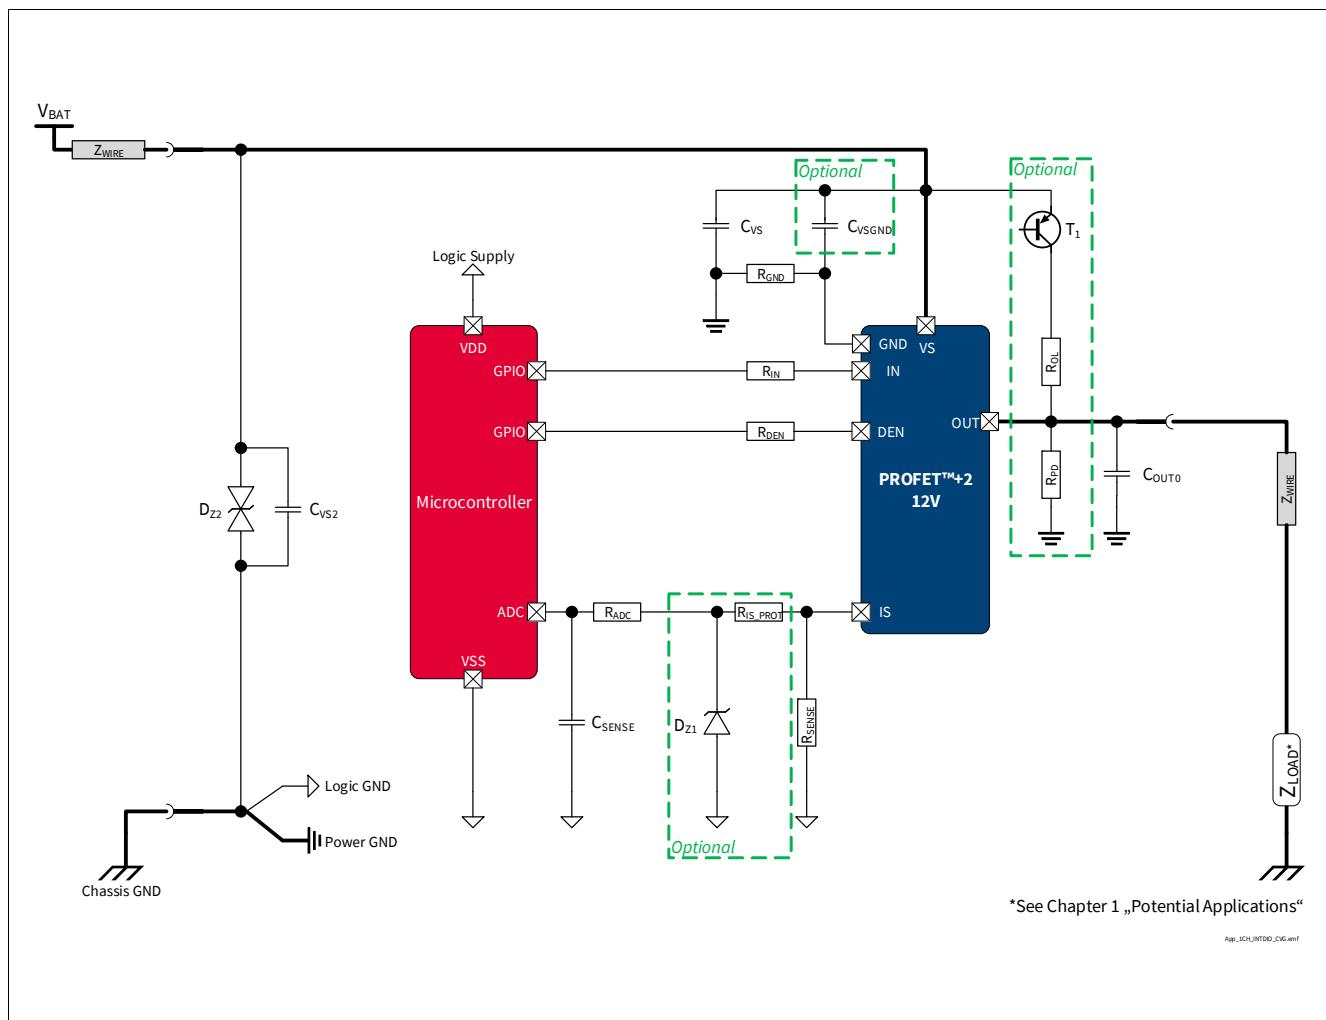

Figure 37 BTS7002-1EPP Application Diagram
1.04 , 2019-10-15	<p>P_6.5.20.1 updated (Typ.: 0.01 μA \rightarrow 0.1 μA)</p> <p>P_8.7.10.1, P_8.7.10.7, P_8.7.10.8 updated (added in Note or Test Condition: link to Figure 24)</p> <p>P_7.5.10.5 updated (added in Note or Test Condition: see Figure 18)</p> <p>P_7.5.10.12 updated (added in Note or Test Condition: see Figure 20; deleted unnecessary space in Symbol: $dVOUT / dt \rightarrow dVOUT / dt$)</p> <p>P_8.7.10.6 updated (added in Note or Test Condition: see Figure 25)</p> <p>P_9.7.10.1 updated (added in Note or Test Condition: see Figure 32)</p> <p>Figure 1, Figure 37 updated</p> <p>P_4.3.0.7 added</p> <p>Table 22 updated</p> <p>Chapter 5.1 updated (added: see Chapter 10 for the complete application setup overview)</p> <p>Chapter 9.2 updated ($2\text{ V} \rightarrow V_{DS(OLOFF)}$)</p> <p>General: updated (ReverSave™ \rightarrow ReverseON)</p>
1.01 , 2018-06-14	<p>Page numbering corrected</p> <p>Figure Application Diagram, Figure 29, Figure 37 updated</p>